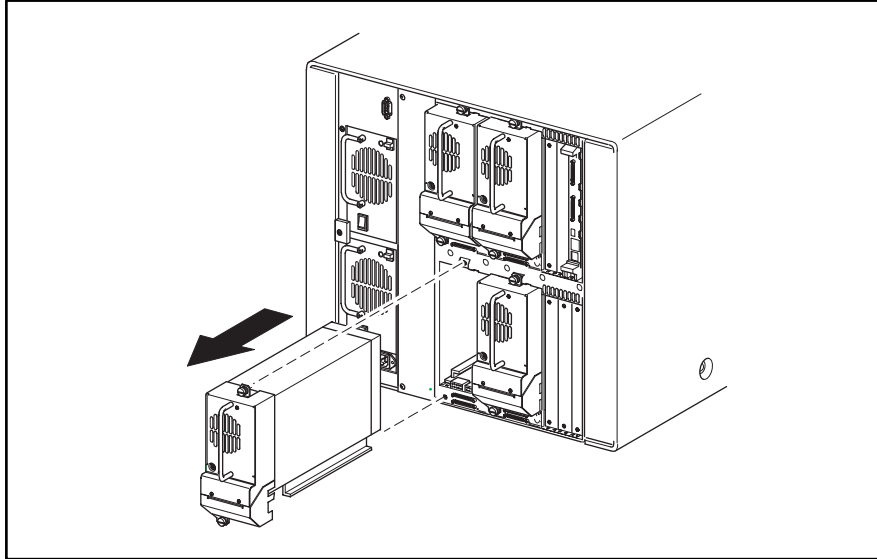

Figure 3–13: Removing a drive shoe assembly
4. Completely loosen the captive retaining screws at the top center and lower left of the drive shoe assembly (see Figure 3–13).